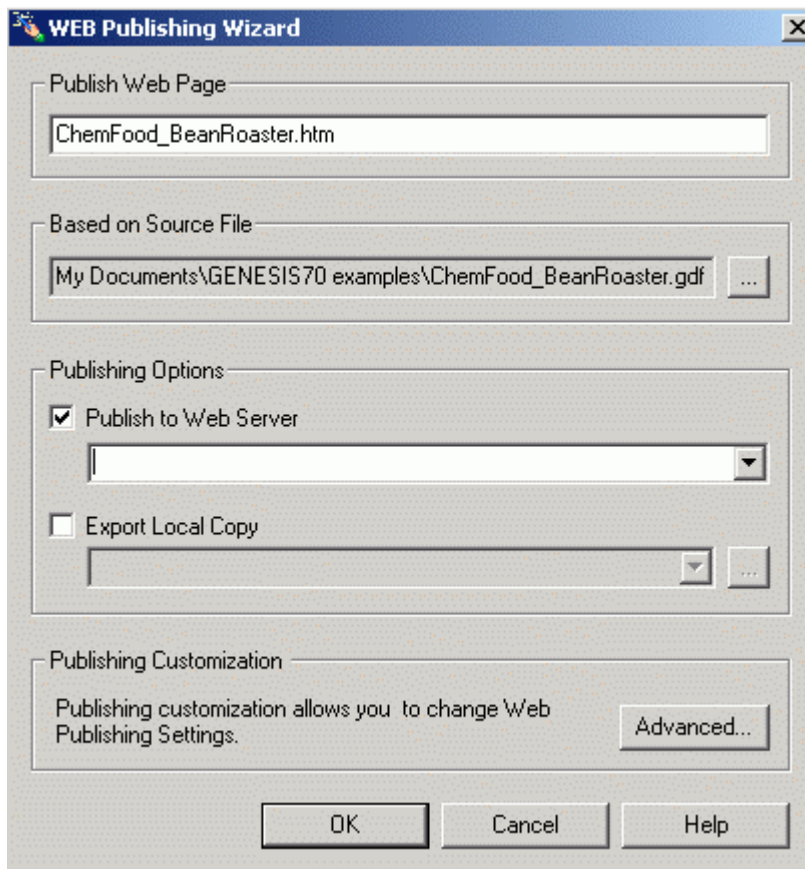

Figure 4.8. Specifying a GraphWorX32 Display File
1. In the **Based on Source File** field of the Web Publishing Wizard, you must specify the name of the GraphWorX32 display (.gdf) file to be published, as shown in **Figure 4.8**. To choose a different display, click the ... button to the right to browse for a file. Select a file and then click **Open**. The directory path and the file name are shown in the text field.